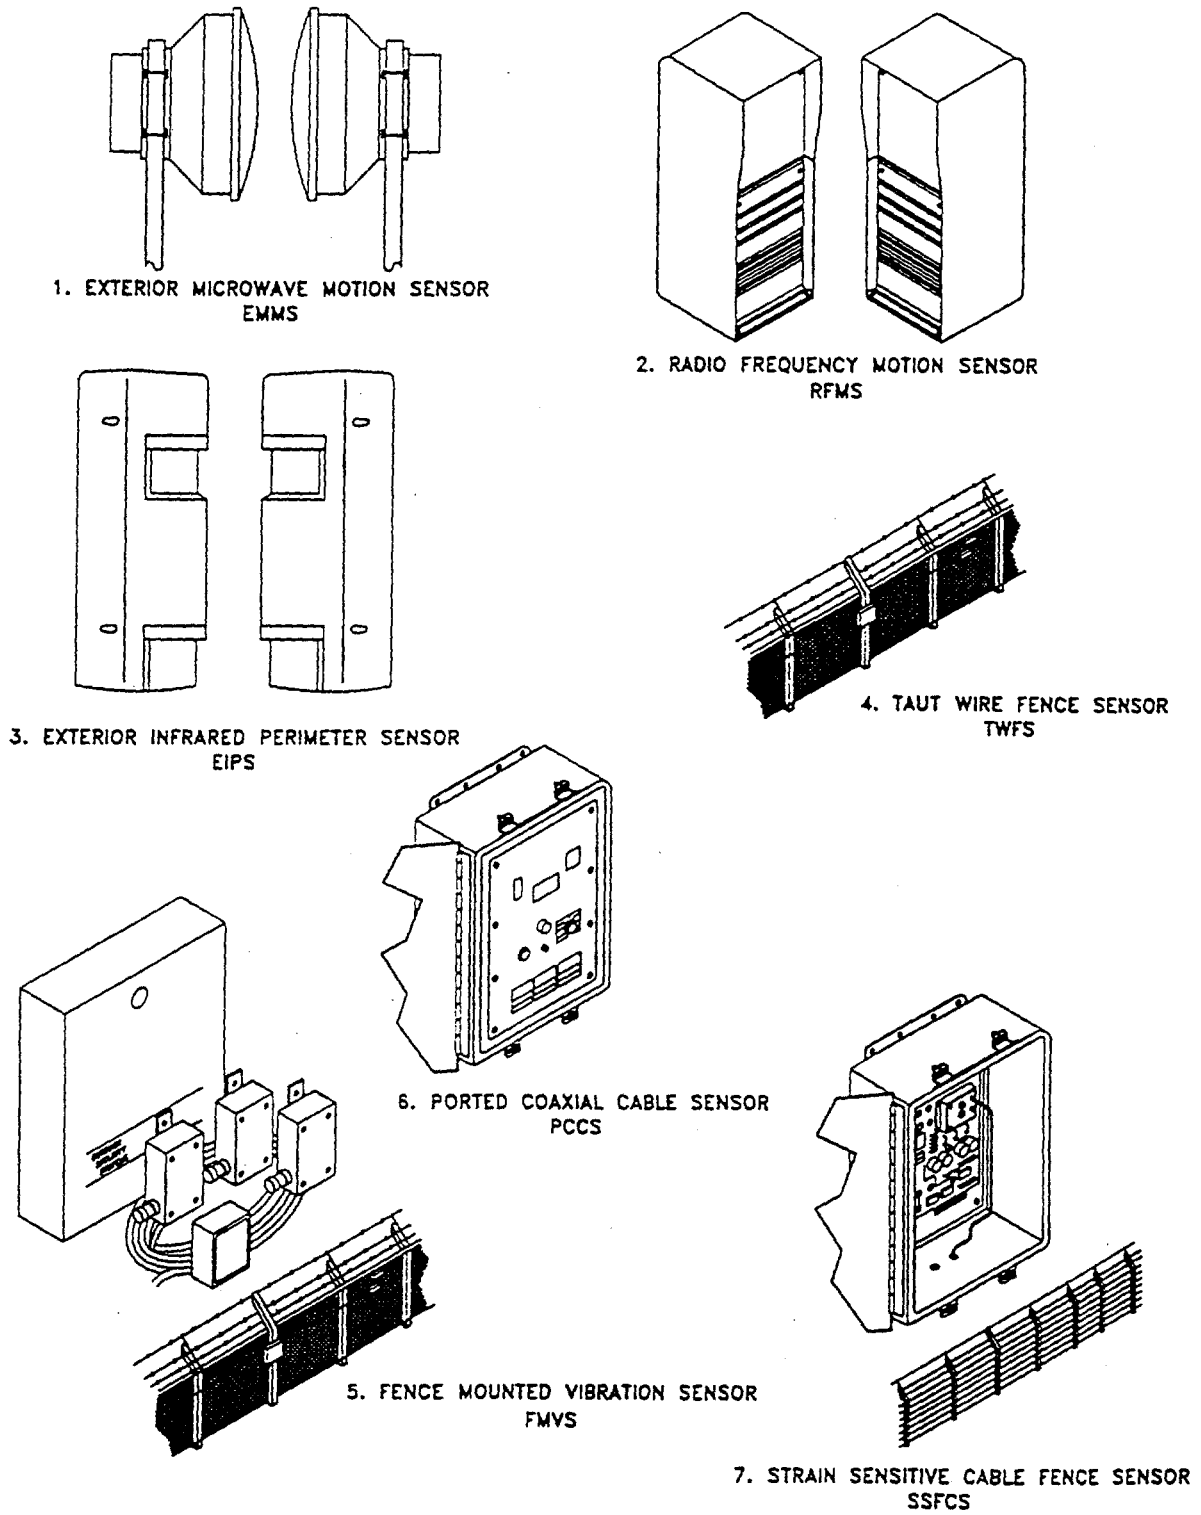

Figure 1-21. Sensor Devices (Exterior)
**(7) Primary Monitor Console (PMC) Audio Module (Item No. 7).** The Primary Monitor Console (PMC) audio module provides the intercom base station and amplifier. It has a volume control knob and a push-to-talk button. Power is provided through the 120 vac power supply. Interface with other audio devices is through terminal strips.
**q. Sensor Devices (Exterior) (See Figure 1-21).**
**(1) Exterior Microwave Motion Sensor (EMMS).** The Exterior Microwave Motion Sensor (EMMS) is an exterior microwave perimeter intrusion detection sensor. It is usually located near or between fence lines. The sensor protects a minimum of 100 meters of fence line and detects intruders crossing the detection zone.
**(2) Radio Frequency Motion Sensor (RFMS).** The Radio Frequency Motion Sensor (RFMS) covers a large area with microwave energy. Any change in energy will be detected by the receiving antenna.
**(3) Exterior Infrared Perimeter Sensor (EIPS).** The Exterior Infrared Perimeter Sensor (EIPS) is a pedestal mounted, active infrared sensor consisting of a transmitter and receiver in two outdoor Environment post type housings. The sensor alarms when an infrared beam between the transmitter and receiver unit is interrupted or beam modulation is disturbed.
**(4) Taut-Wire Fence Sensor (TWFS).** The Taut-Wire Fence Sensor (TWFS) is a tensioned barbed wire displacement sensing sensor that detects attempts by a fence climbing intruder. Multiple strands of wire and tensioning devices are attached to either "vertical" or "Y" (angled) outriggers on the fence. The sensor alarms when 60 pounds or more is applied to any strand of the barbed wire or when any strand is deflected by 6 inches or more.
**(5) Fence Mounted Vibration Sensor (FMVS).** The Fence Mounted Vibration Sensor (FMVS) is a chainlink fence mounted sensor that assures continuous detection coverage across the full span of the fence panels, including the fence post. It consists of vibration-detecting transducers that detect mechanical vibrations caused by intruders climbing, pulling, tugging, or cutting any part of 200 meters of fence paneling.
**(6) Ported Coaxial Cable Sensor (PCCS).** The Ported Coaxial Cable Sensor (PCCS) detects intruders crossing a detection zone by transmit and receive cables that are buried in parallel along a perimeter. A disturbance in the electromagnetic field between the cables causes the sensor to alarm.